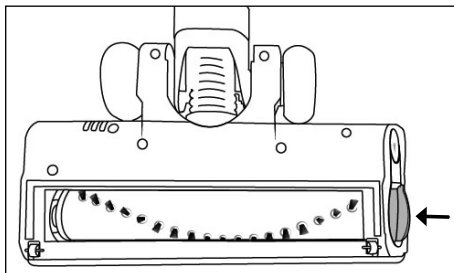

Fig. 28
- 4) Insert the rotary brush 20 in the floor brush 21 until it audibly clicks into place and is firmly seated in the floor brush 21 (see Fig. 28).